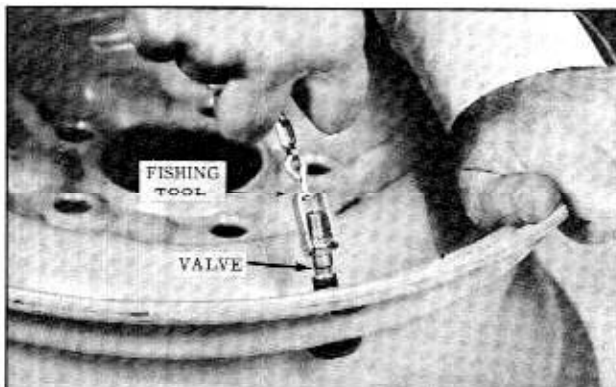

Fig. 5-33 Installing Valve
3. Insert the "snap-in" type rubber valve through the hole in rim as far as it will go, then pull the valve through the hole with a tire valve fishing tool until the valve snaps into position. (Fig. 5-33)